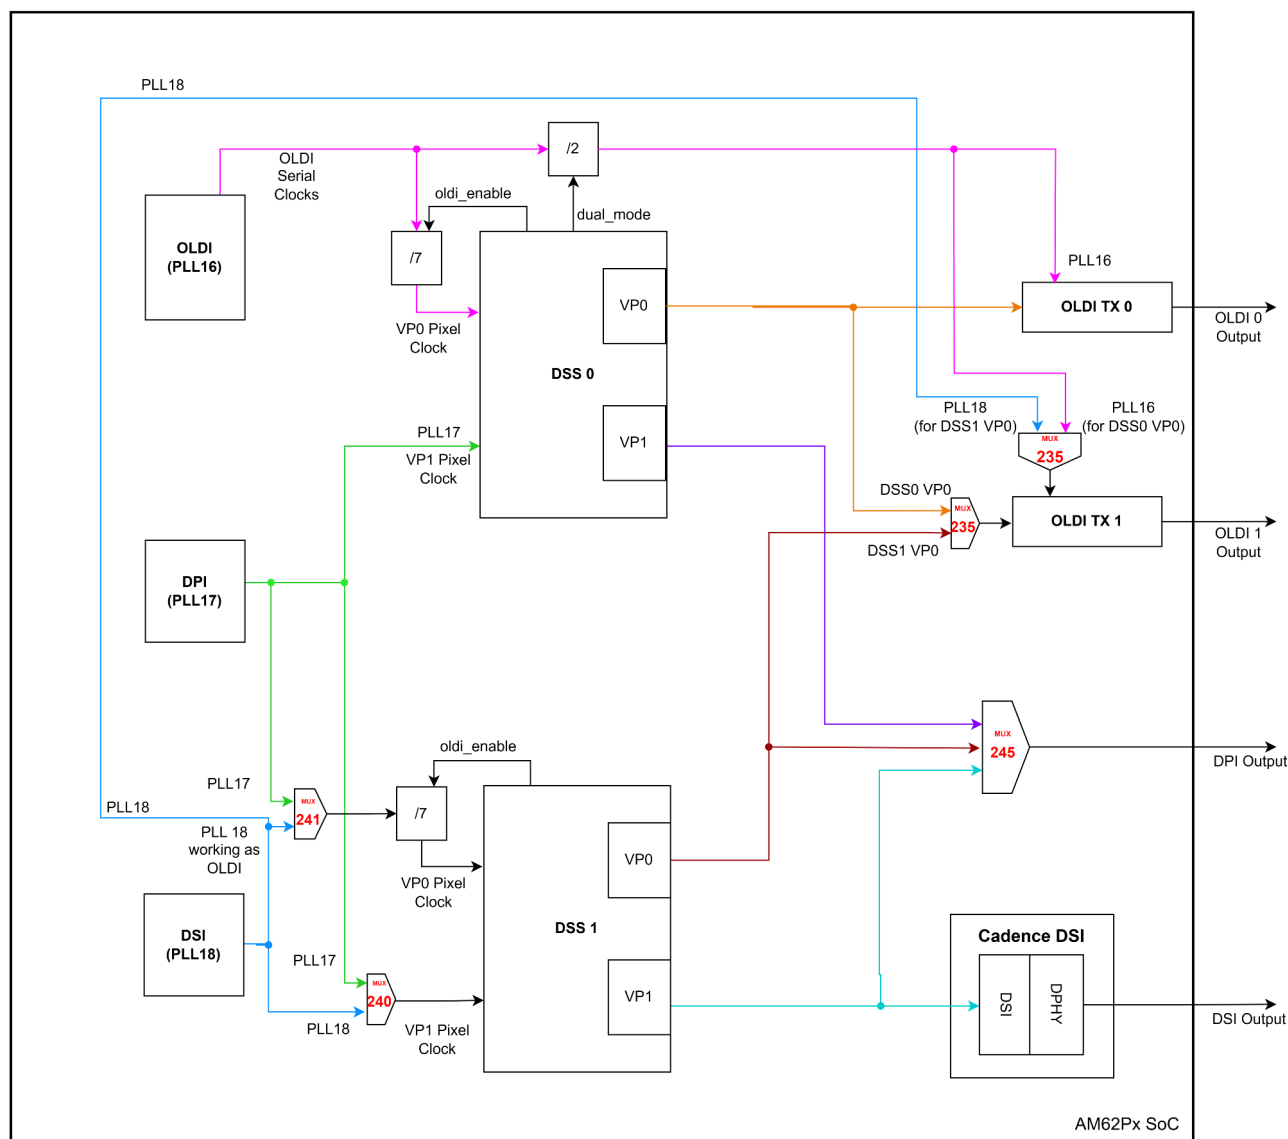

Figure 1-2. DSS to Output Routing
As shown in Figure 1-2, AM62P features two DSS controllers and three PLLs and the device can drive up to three displays simultaneously. To drive a specific interface, users must configure the DSS Video Port (VP) and the PLLs correctly to achieve the desired output. This application note summarizes the correct configuration for VP and PLL.